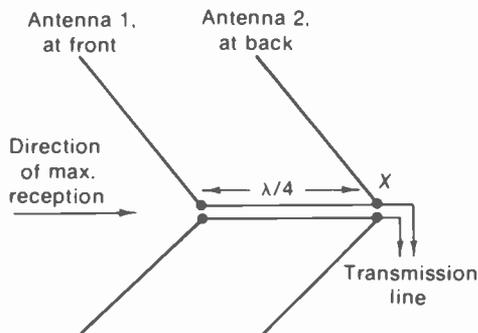

FIGURE 25-24 TWO V ANTENNAS MOUNTED ONE BEHIND THE OTHER IN HORIZONTAL END-FIRE ARRAY. NO REFLECTORS OR DIRECTORS ARE NEEDED.
**Unidirectional end-fire array.** In Fig. 25-24, two antennas are stacked one behind the other a quarter wavelength apart. They are connected to the common transmission line at point X to form an array that has the unidirectional response shown, without any parasitic reflector or director. The arrangement is an end-fire array because it has maximum response through the line of the array. This double V is often used as a VHF antenna. Each V is a dipole, cut for the low-band channels but angled in for broadside response on the high-band channels.